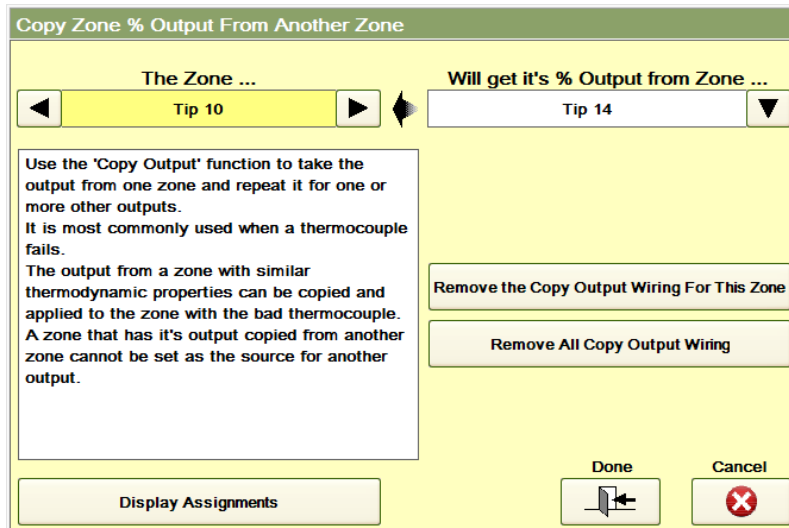

Figure 18c Copy Zone % Output
Copy Output: Press this button to display the screen shown in Figure 18c. This feature is most commonly used when a thermocouple has been lost or if no thermocouple exists. The output percentage of any zone can be used on additional zones. In the example shown in Figure 13j, the output percentage of Zone 10 can also be used for Zone 14 using the following procedure:
- 1) Select the zone whose output is to be copied (Tip 10 in Figure 18c).
- 2) Select the zone the output percentage is to be copied to (Tip 14 in Figure 18c).